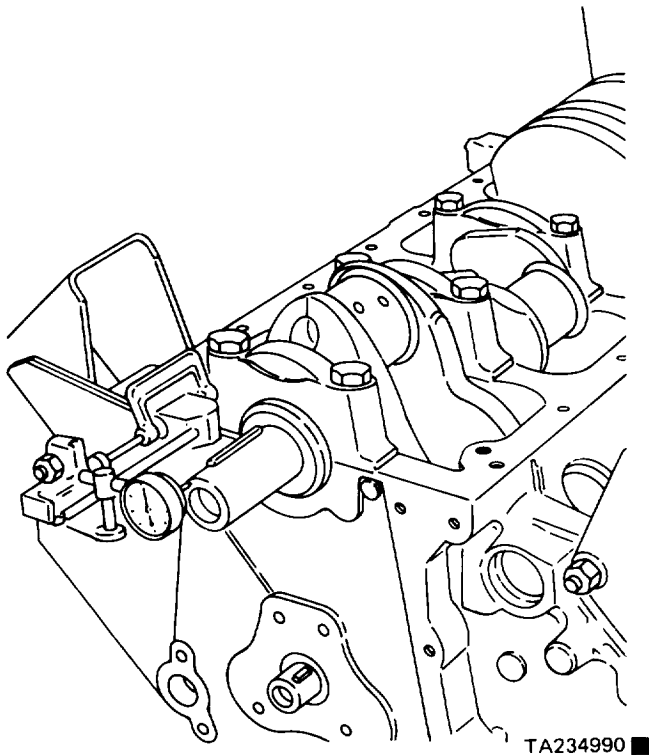

Figure 11-36. Measuring Crankshaft End Play.
(1) While holding the crankshaft in position, install the bearing caps and tighten them finger-tight only.
(2) Alternately torque all the bearing caps to 30 ft-lbs, working out from the center. Check the crankshaft for free rotation each time a cap is tightened. If the crankshaft binds, make sure the cap is seated properly and that you have installed the correct size bearing.
(3) Repeat the tightening procedure; torque to 50 ft-lbs and then to 85 ft-lbs.
g. *Checking Crankshaft End Play.* Measure the crankshaft end play (figure 11-36). It should be a minimum of 0.002 inch and a maximum of 0.009 inch.